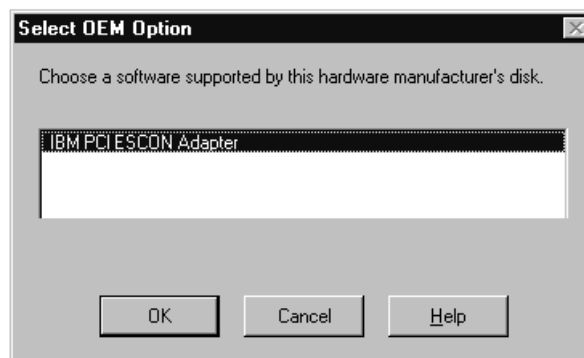

Figure 3-9. Select OEM Option Screen
5. The **Select OEM Option** dialog box will be displayed (Figure 3-9). Highlight/select the **IBM PCI ESCON Adapter** and click **OK**.